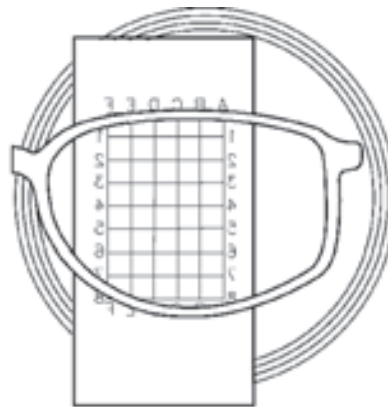

Figure 5
- Keeping the Frame Templates in position (Figure 5), align the pupil position on the fitting cross of the lens cut-out circles appropriate to the material required on the measurement chart. Ensure that the frame shape is within the lens circle blank diameter.